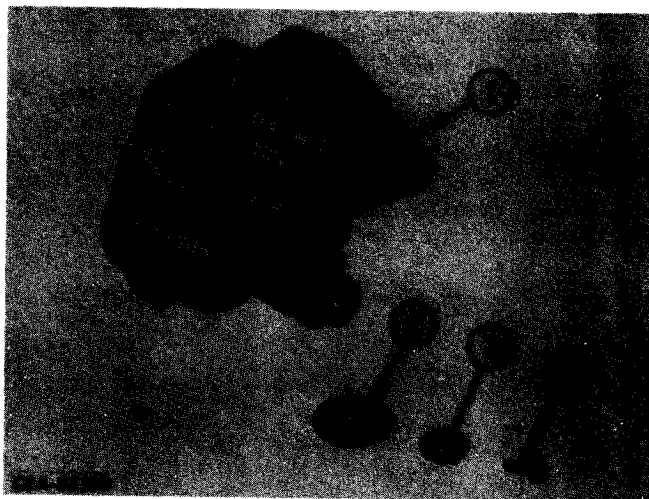

Figure 13-47
Remove cap screw (4, Fig. 13-47) and washer (3) that hold exhaust diaphragm (2) to body (1).
Place exhaust diaphragm (2, Fig. 13-47) in exhaust port in body (1) and fasten in place with washer (3) and cap screw (4).